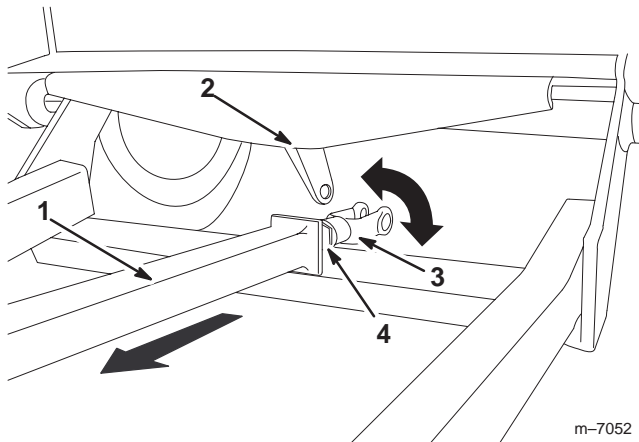

Figure 18
3. Move the lift rod down and out of the lift arm so that the yoke can turn freely (Fig. 18) and loosen the jam nut.
4. Move lift rod forward as far as possible and hold it in that position (Fig. 18).
5. Turn the yoke to adjust the length of the lift rod (Fig. 18). The lift rod is in position when the holes in the yoke line up with the lift arm.